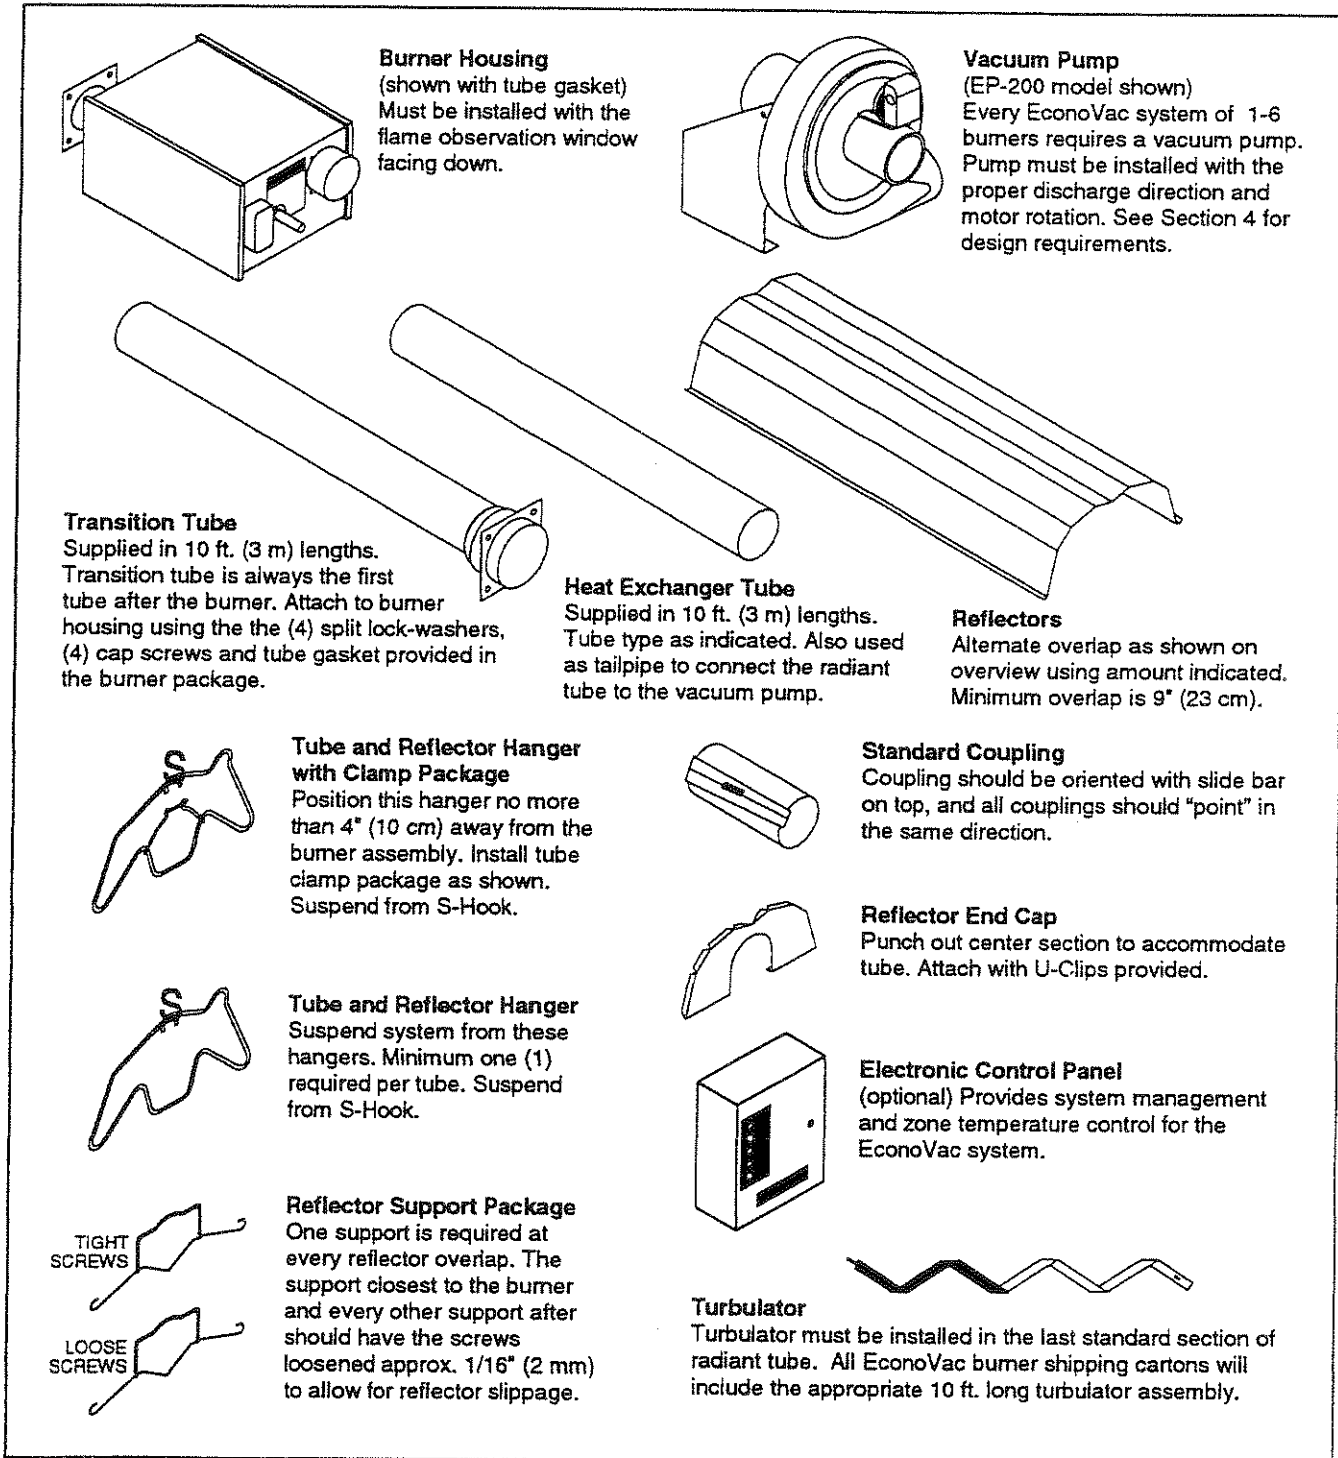

Figure 3. Assembly Overview
- 2) In some cases, the EconoVac system may be received with the accessory components non-cartoned, or packaged for a specific installation. In those cases, be sure to acquaint yourself with the individual components shown in Figure 2. Also follow carefully the appropriate diagram (Figures 3 through 9) for the heater you ordered. These indicate the quantity and location of all necessary components.